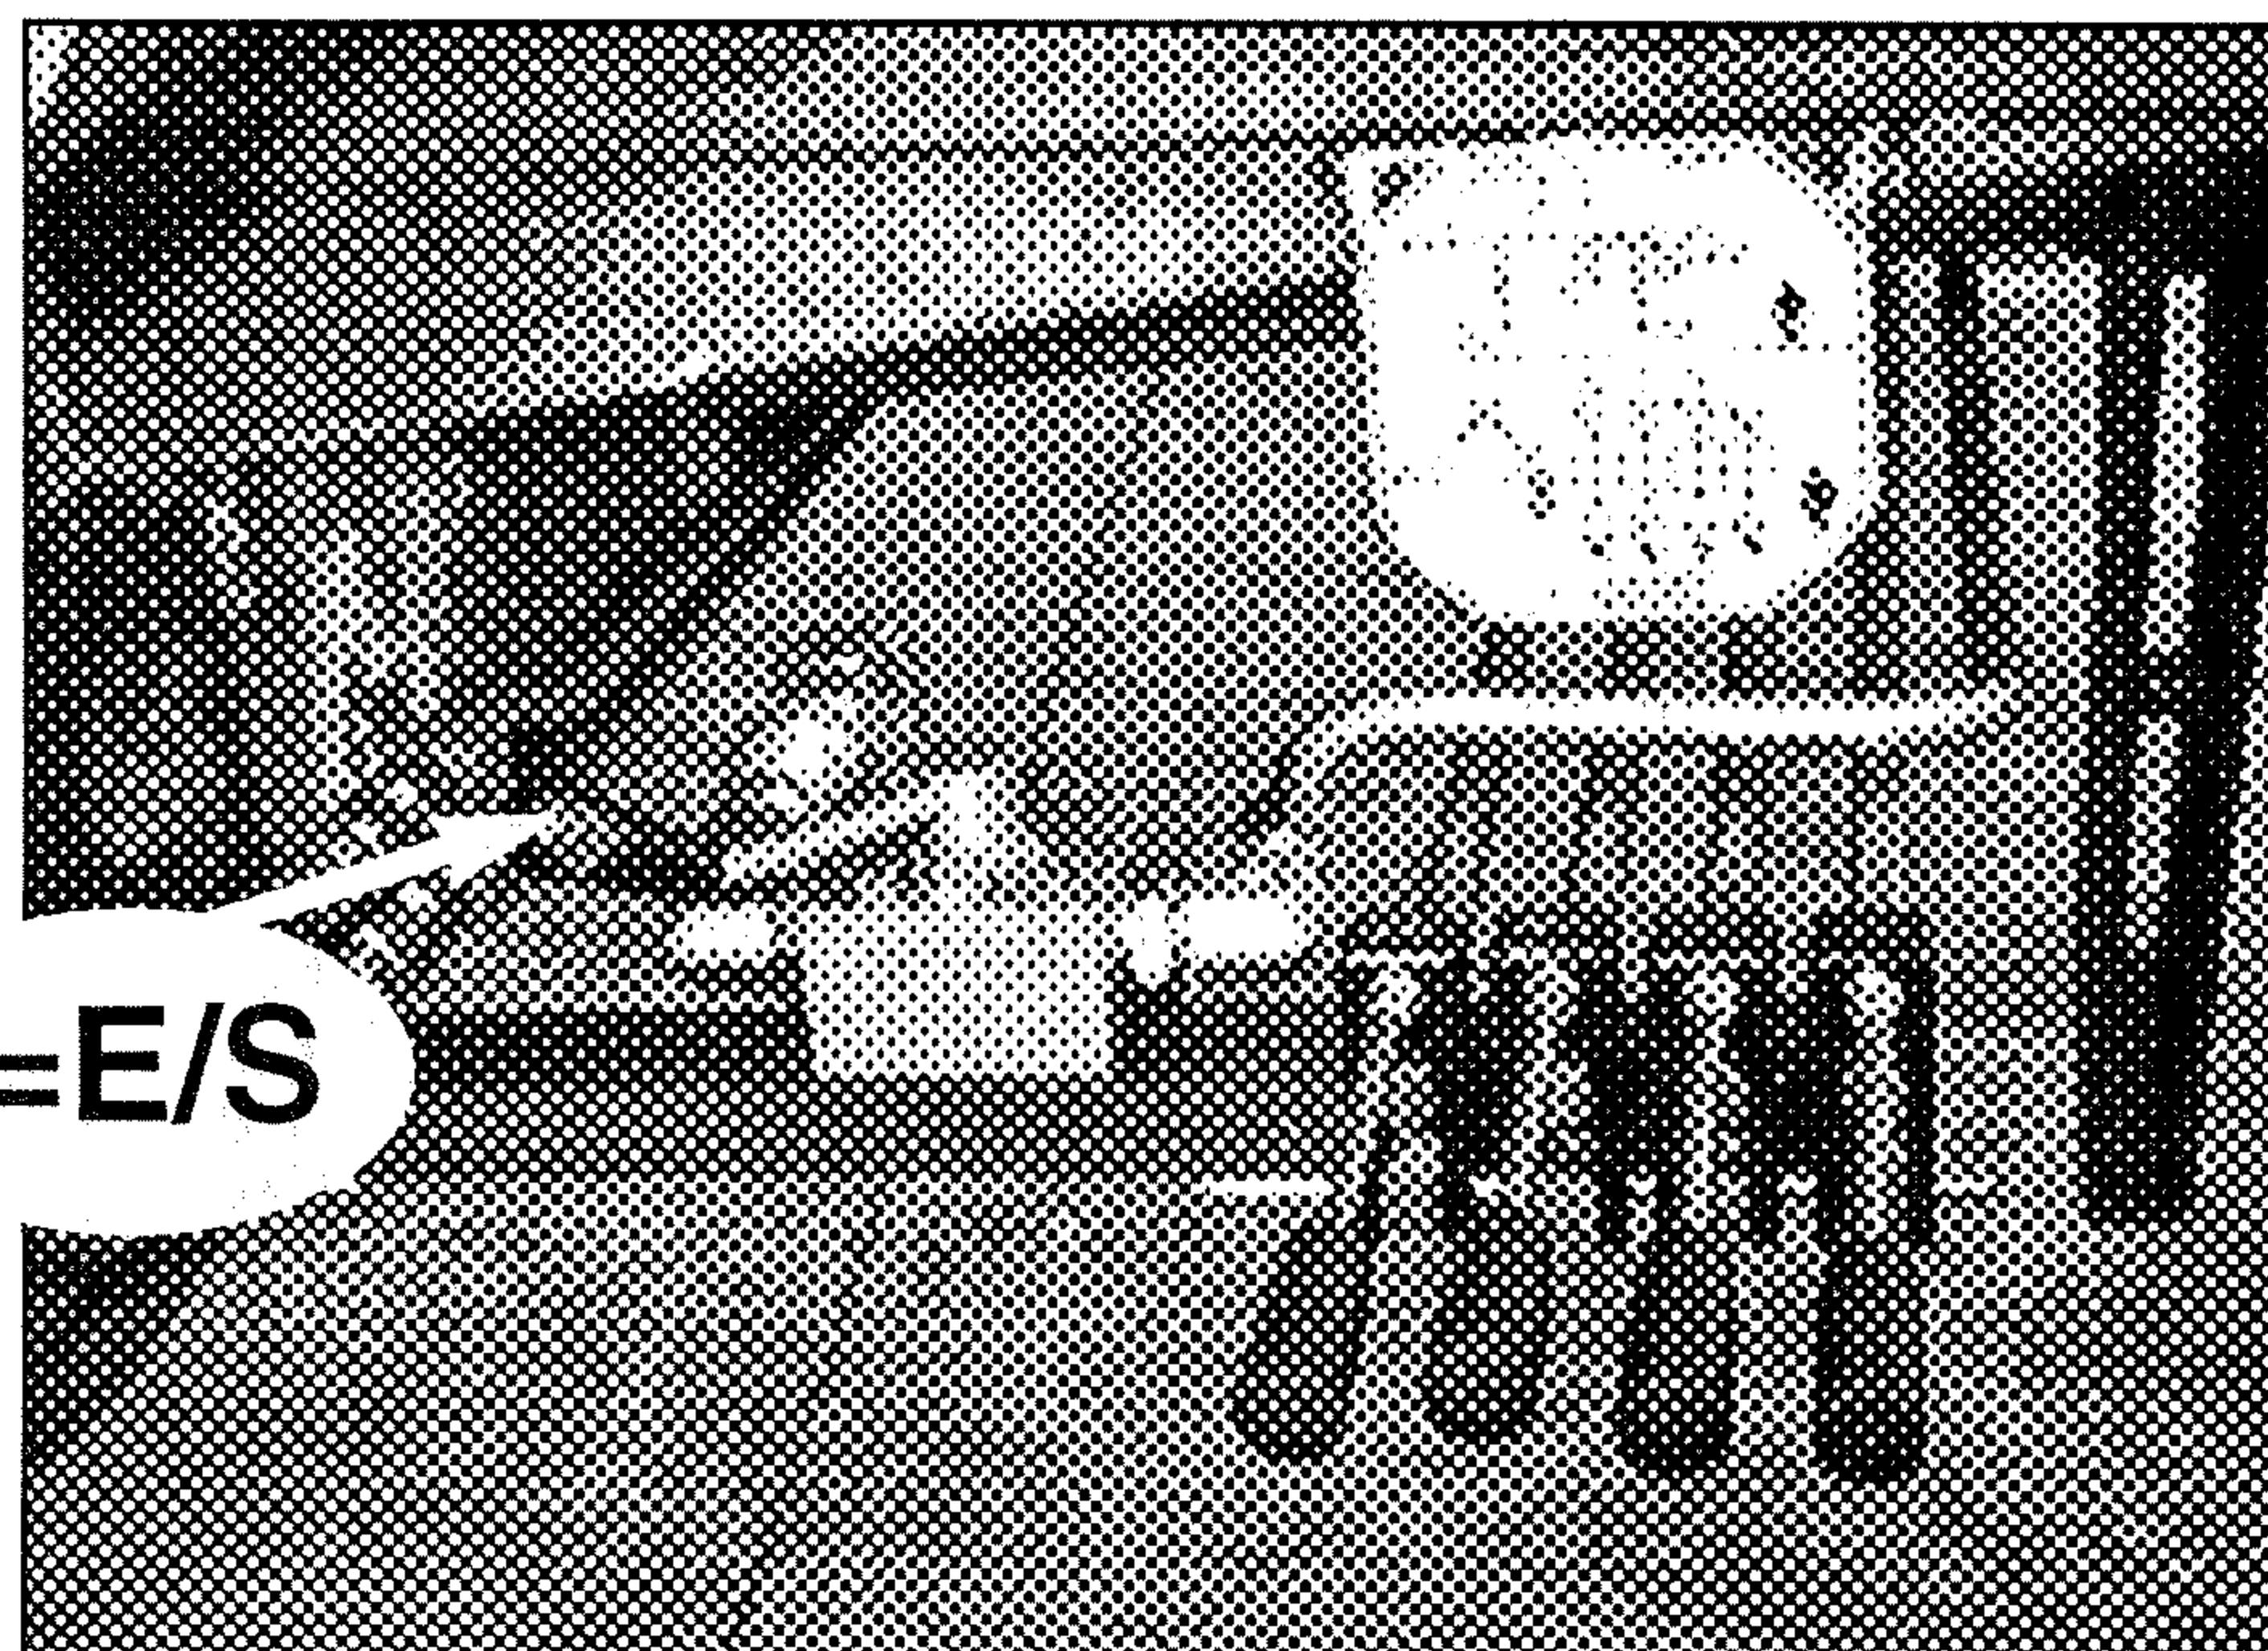

fig. 9
- Position the lever of oil diverter **E/S**, on **E** (extensions - outriggers). Fig. 9